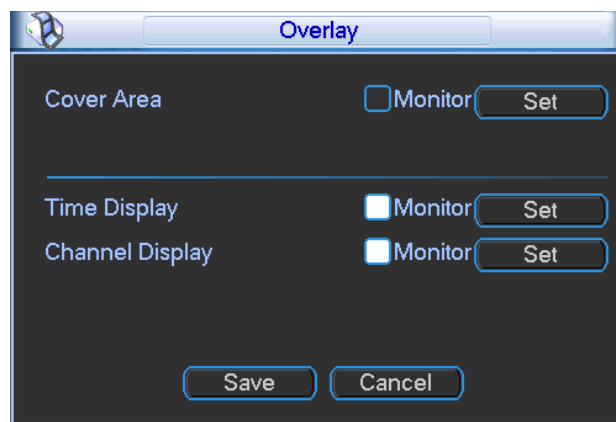

Figure 3-41
- Overlay: Click overlay button, you can see an interface is shown in Figure 3-41.